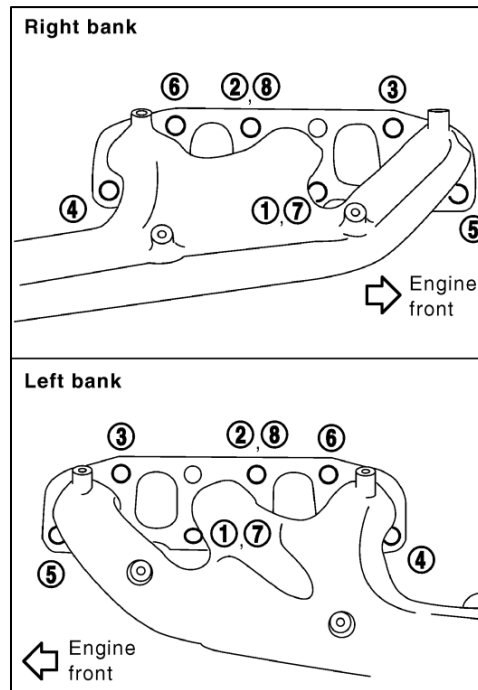

Figure 9
21. Locate the Z1 Header. Install it onto the Exhaust Manifold Studs. Secure it with the Nuts removed in *Step 15* or with new Nuts. Once positioned, torque the nuts to **22 ft-lbs** in the order shown below. *Figure 9*.